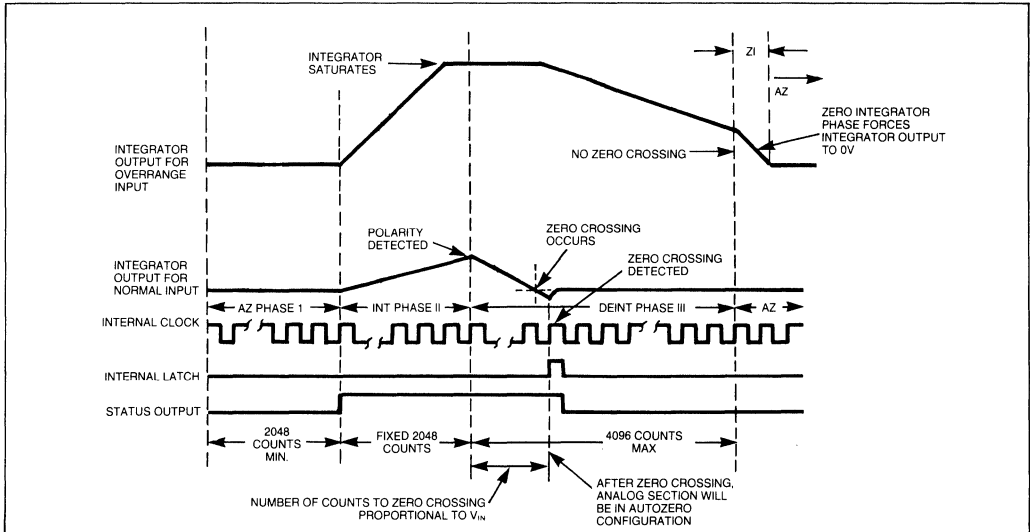

Figure 3: Conversion Timing (RUN/HOLD Pin High)
The Functional Diagram shows a block diagram of the Analog Section of the TSC7109A. The circuit will perform conversions at a rate determined by the clock frequency ($8192 \text{ clock periods per cycle}$), when the RUN/HOLD input is left open or connected to V^+ . Each measurement cycle is divided into four phases as shown in Figure 3. They are: (1) Auto-Zero (AZ), (2) Signal Integrate (INT), (3) Reference Deintegrate (DE), and (4). Zero Integrator (ZI).
During ZI, the reference capacitor is charged to the reference voltage. The signal inputs are disconnected from the buffer and integrator. The comparator output is connected to the buffer input, causing the integrator output to be driven rapidly to 0V (Figure 3). The ZI phase only occurs following an overrange and lasts for a maximum of 1024 clock periods.
During a conversion cycle, the STATUS output goes high at the beginning of Signal Integrate and goes low one-half clock period after new data from the conversion has been stored in the output latches. See Figure 3. The signal may be used as a "data valid" flag to drive interrupts, or for monitoring the status of the converter. (Data will not change while STATUS is low).
With RUN/HOLD high or open, the circuit operates normally as a dual slope A/D as shown in Figure 3. Conversion cycles operate continuously with the output latches updated after zero crossing in the de-integrate mode. An internal pull-up resistor is provided to insure a high level with an open input.